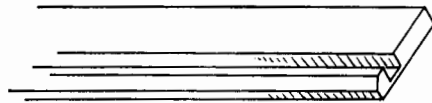

Fig. 45. Grooved and beveled welt.
**Welt.** The next step in the construction of this shoe is to attach a narrow strip of leather, or *welt*, to the inner sole. This welt usually is grooved and beveled along one edge to receive and protect the stitches with which it is attached (Fig. 45). See Figures 45–47 for some types of welt. The welt, uppers, and lining are stitched to the ridge created for this purpose on the bottom of the inner sole (Figs. 43 and 48). This same